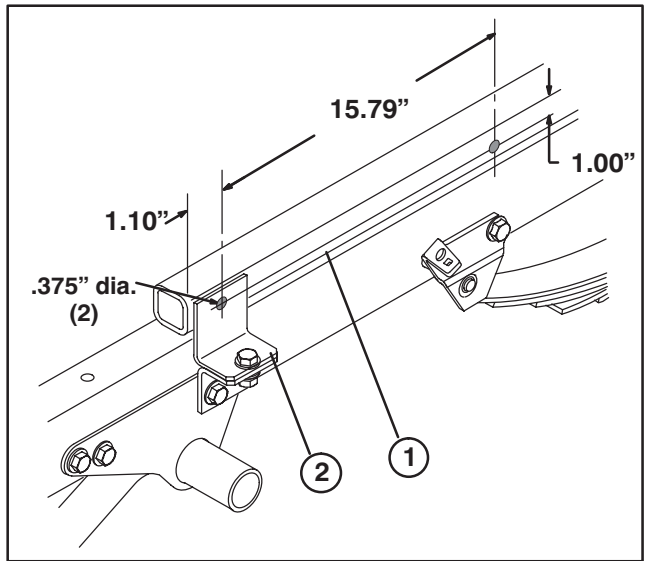

Figure 5
14. Using dimensions shown in figure 5, locate, mark and drill (2) .375 (3/8)" dia. holes, thru both walls, of each H.D. Hitch Frame Tube.